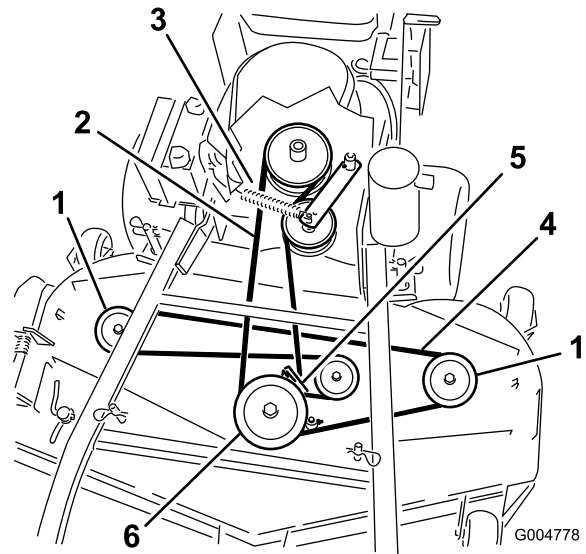

Figure 46
6. Disconnect the idler arm spring to relieve tension on the idler arm and idler pulley, then remove the worn mower belt (Figure 46).
7. Install the new mower belt around the two outside spindle pulleys, the idler pulley, and in the lower groove of the double spindle pulley (Figure 46).
8. Connect the idler arm spring (Figure 46).
10. Adjust the belt guide an 1/8 inch (3 mm) from the belt (Figure 46).